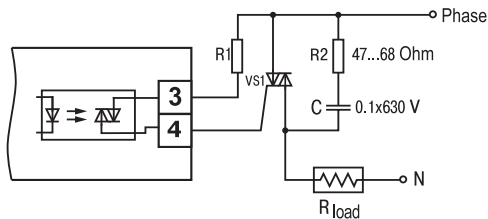

Figure 17.
3.1.10.2. Optotriac is included in the control circuit of a powerful triac through limiting resistor R1 as shown on figure 17. Ohmage of the resistor defines the triac control current.